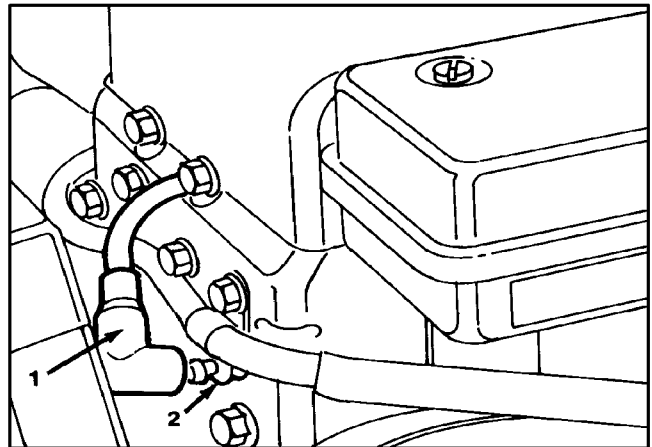

Figure 10
To prevent accidental engine starting while performing maintenance, shut the engine off and remove the key from the ignition switch. Also, pull the wire off the spark plug (Fig. 10). Make sure the wire does not contact the plug accidentally.
1. Remove the wire from the spark plug (Fig. 10).